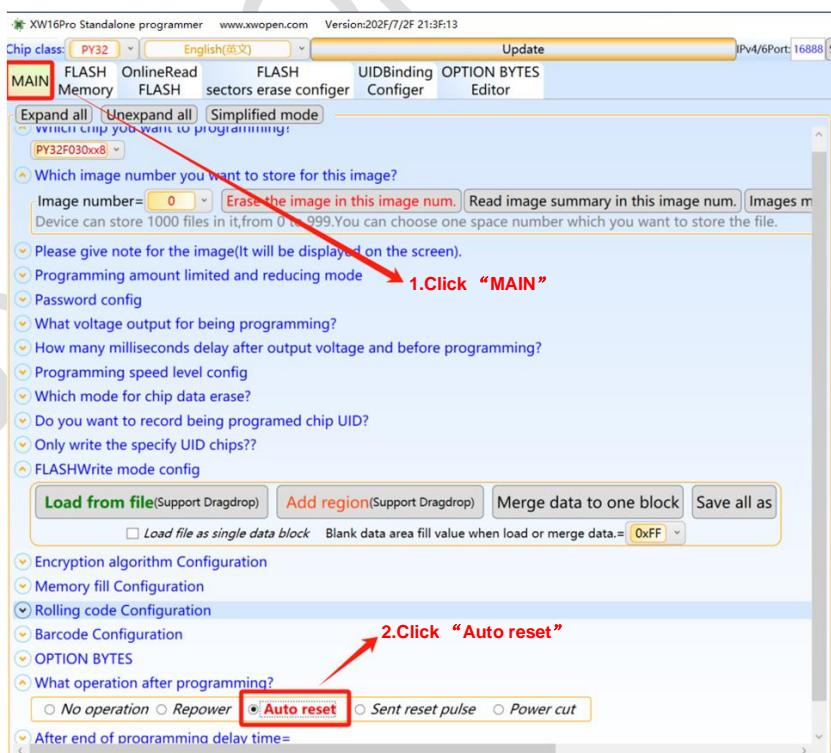
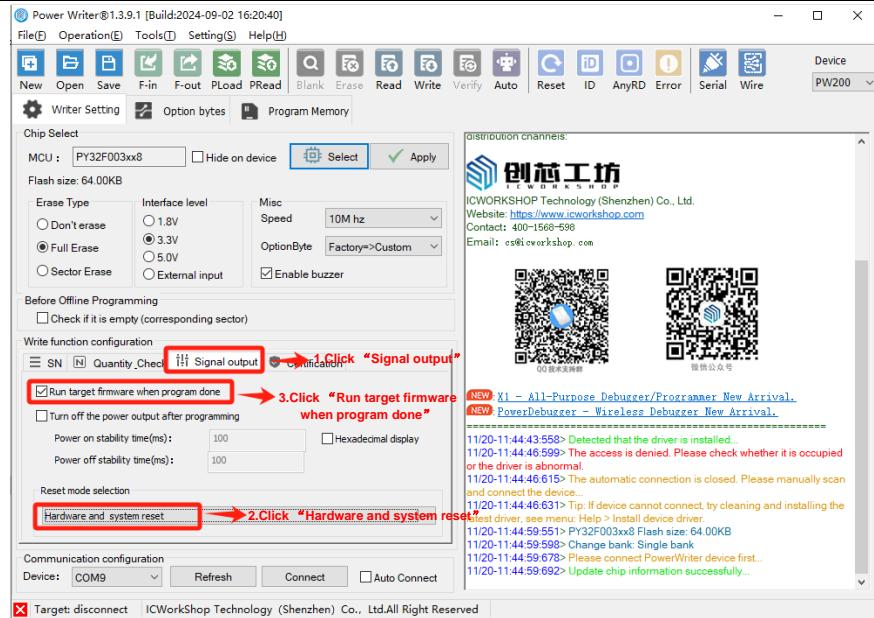

Figure 11-3 XW Operation 'Smart Reset'
Figure 11-4 Power Write Operation Tick ‘Reboot Chip After Programming’
- When configuring the Option of the programmer, you need to check the "Smart Reset" function or "Restart the chip after programming" (programmers typically have similar options that need to be selected). The specific steps are shown in Figures 11-3, Figure 11-4.